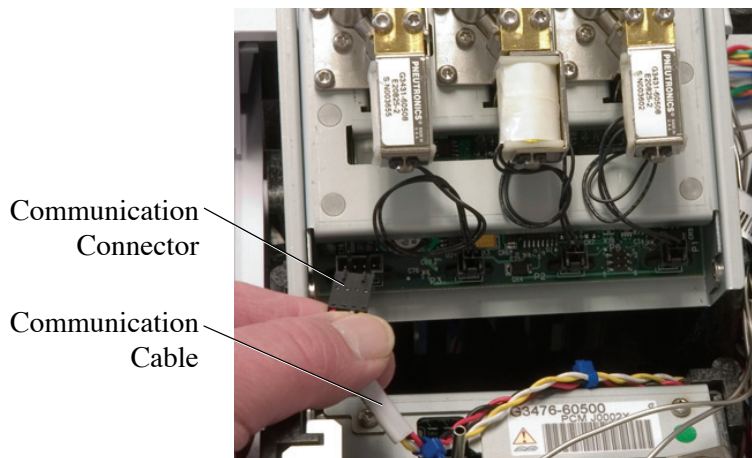

Figure 4.23. Attaching the communication cable to the EPC module
- c. Attach the communication cable to the EPC module (Figure 4.23).